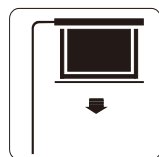

Figure 13
2. Turn the switch to position "↓" to lower the screen; it will come down slowly. When it is all the way down, it will stop automatically (Figure 13).